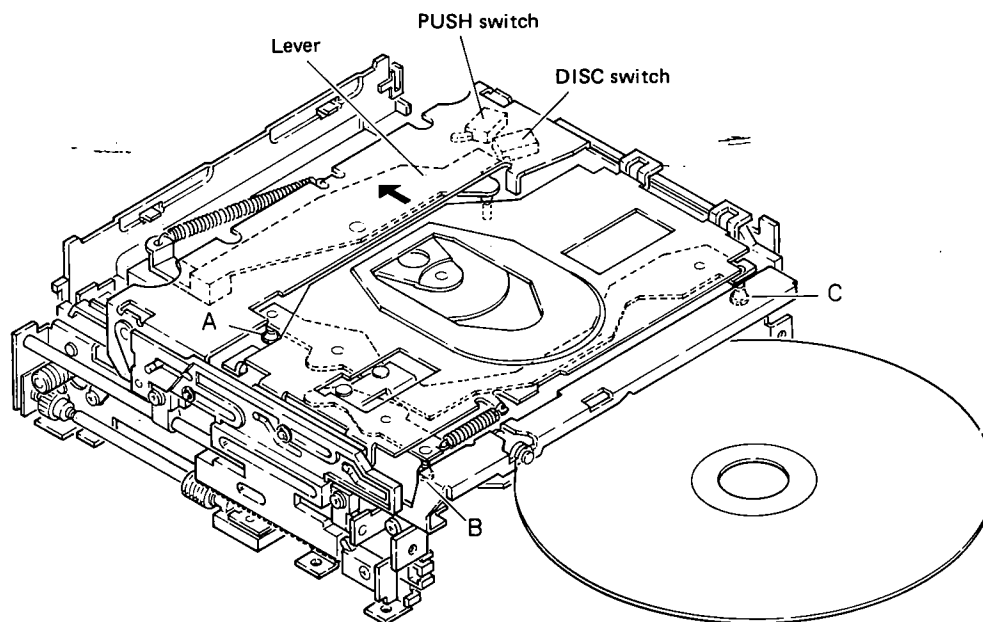
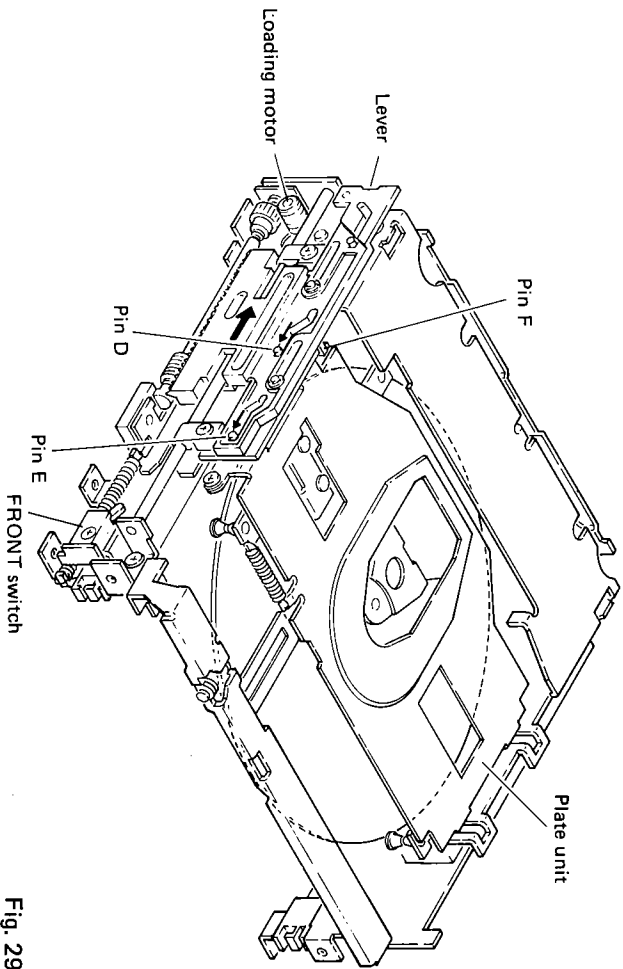

Fig. 28
Fig. 29
1. When a disc is inserted, it is supported at point A, B and C. At the same time, a lever moves toward the arrow direction and the DISC switch is opened (Fig. 28).
2. When the disc is pushed further, a PUSH switch is turned on and the loading motor rotates to start loading (Fig. 28).
. A lever and plate unit are shifted toward the arrow direction, then the FRONT switch is opened (Fig. 29).
When the center of the disc comes to the spindle motor, plate unit movement toward the back is terminated and it is then shifted down by the pins of D and E (Fig. 29).
. A lever moves further toward the back which widens point A, B and C (Fig. 28) using pin F and frees the disc (Fig. 29).